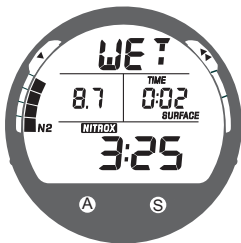

Fig. 13 - Wet
- Alpha graphic TIME (Fig. 12), or WET (Fig. 13)